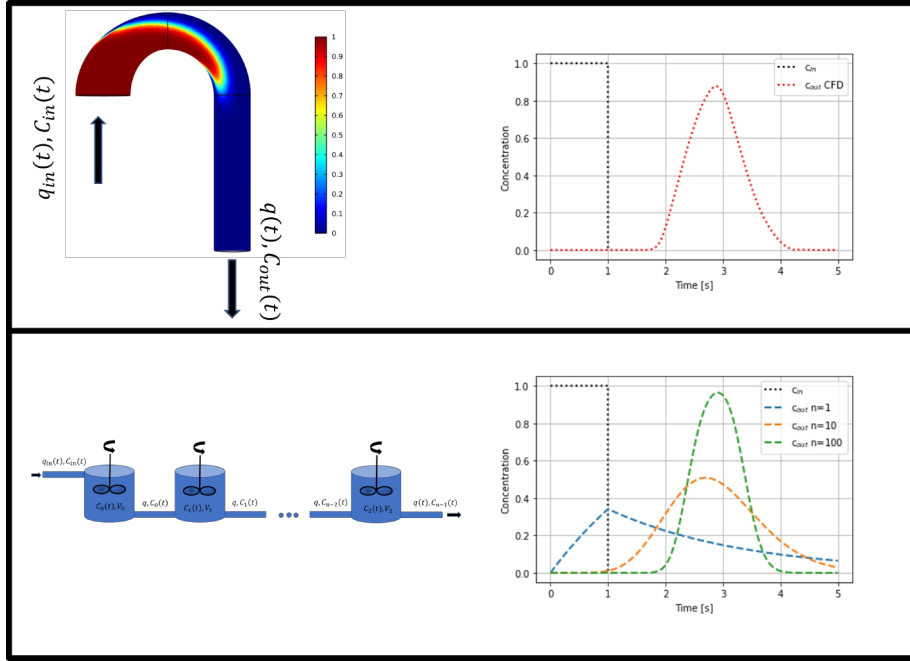

Figure 1: Top: A CFD simulation of an aorta arch. Bottom: A model with  $n$ -mixing tanks in a series.
**Graphical Abstract.** In this project we are investigating if we can replace a complicated 3D computational fluid dynamics simulation with a set of ordinary differential equations, as in figure 1.
In this project, a CFD solver has been used to produce data for us: The CFD solver is our "experimental lab". To match results from the CFD simulations, we are going to implement a much simpler approach, namely a Continuous-Stirred-Tank-Reactor (CSTR) model with  $n$  tanks in series [ch.18][3]. The key idea we are going to explore is illustrated in figure 1.
The top part of figure 1 illustrates what happens when a square pulse of contrast agent is injected into an aorta arch. The left plot shows a snapshot of the spatial distribution of contrast agent after 1 second, while the right plot shows the sampled effluent concentration (the concentration coming out) as a function of time. We want to investigate whether we can use a simple model with  $n$ -tanks in a series to predict the same *effluent* concentrations. Clearly, we will not be able to match the concentration *inside* the aorta arch. However, if we can reproduce the effluent concentration with the  $n$ -tank model (the value of  $n$  has to be determined from the data), we can use the simple model to determine important parameters of the system, such as the volume of the aorta arch. Subsequently, the model could become an important diagnostic tool.